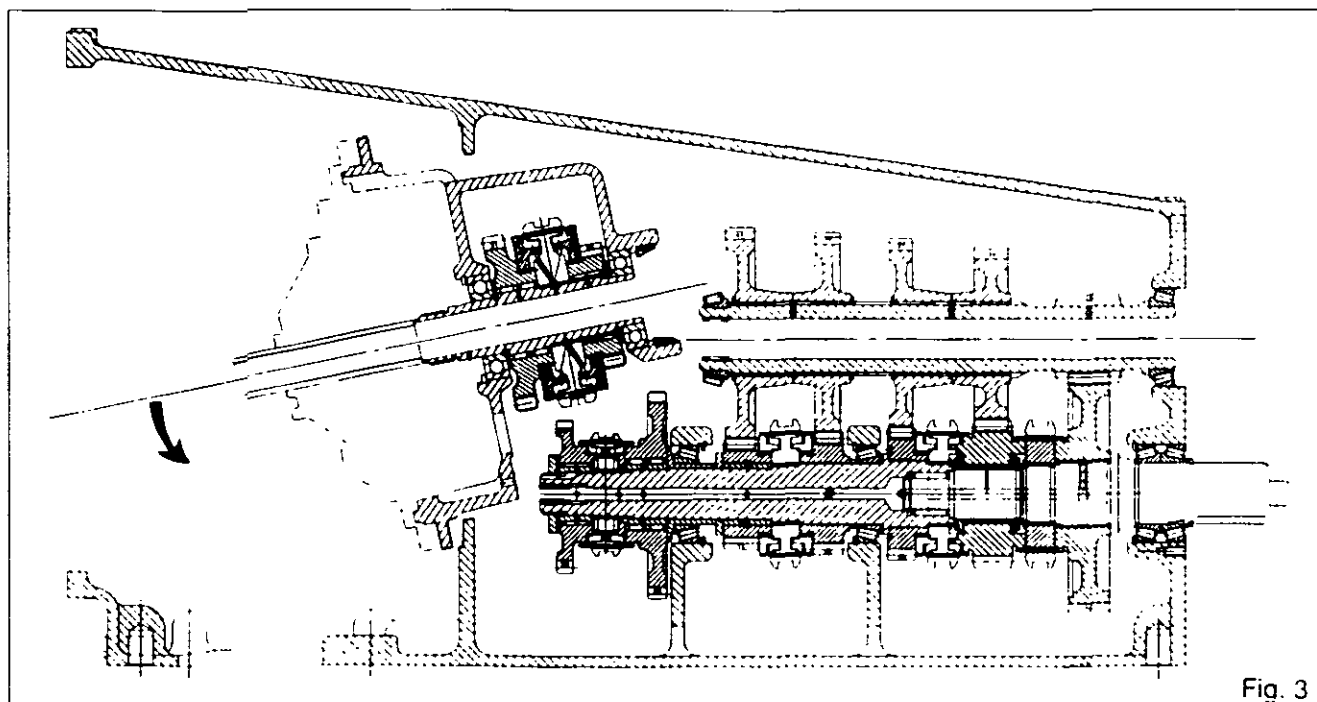

Fig. 3
11. Release and withdraw the reversing mechanism by tilting it forward and down (Fig.3).